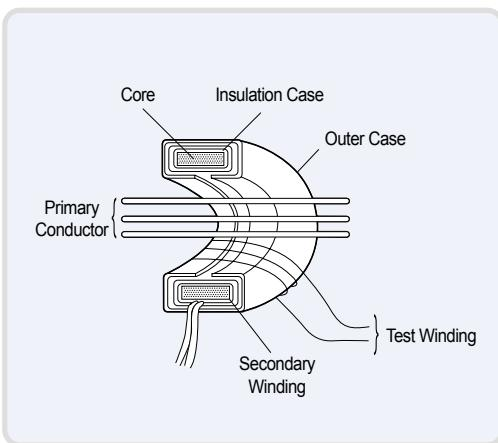

Fig. B-8. Structure of ZCT
The ZCT needs to be considered separately from the regular current transformer(CT) because it has to detect extremely small current leakage. A highly permeable magnetic material like the permalloy core is commonly used. As in Fig. B-8, the permalloy core, the primary conductor through which the main circuit current flows and secondary winding which is coiled around the core are fundamental in its composition. The principle of detecting works by the core's vector synthesis with magnetic flux which is from the primary conductor phase current and by the magnetic flux within the flux difference of each phase, electromotive force occurs at secondary winding. At this time, if each phase current's vector sum is zero regardless of primary current size, the magnetic flux will be offset in the core and electromotive force will not occur at secondary winding. But if there is leakage or a grounding fault current, the current balance of each phase breaks down and by the magnetic flux within the size of leakage and grounding current, the core will be excited and electromotive force will occur at the secondary winding.